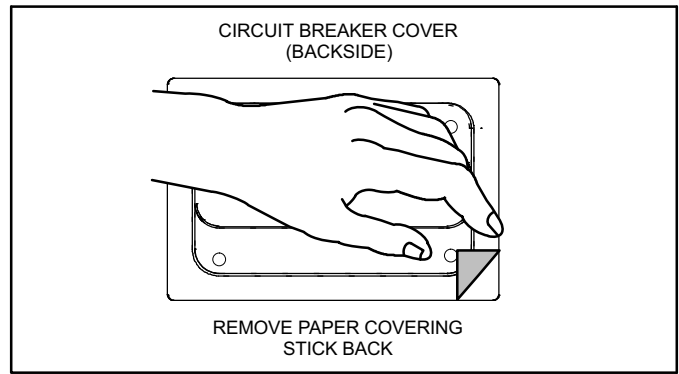

Figure 8. Remove Paper Cover
2. Remove paper covering adhesive back around backside perimeter of circuit breaker cover (figure 8).